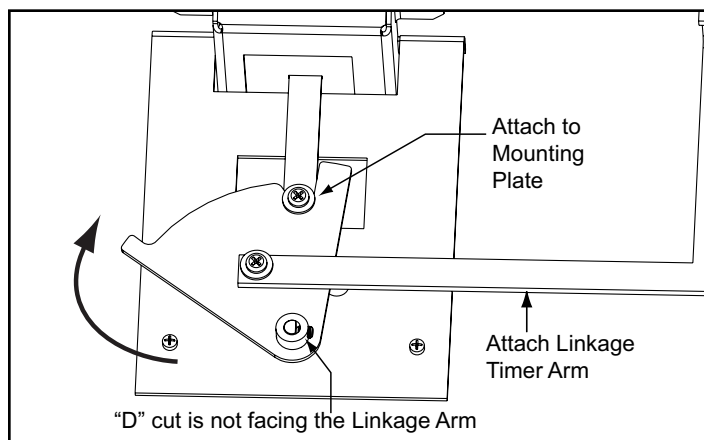

Figure 37.2
4. Rotate linkage control arm into final position and re-attach to mounting plate. Note that the D cut is now facing the linkage timer arm. Re-attach the linkage timer arm. Figure 37.2.